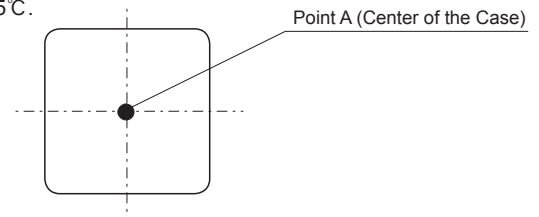

Fig.8.4 Temperature Measuring Point on the case (Top View)
(4) Temperature Measuring Point on the case.
- In case of forced air cooling, please have sufficient ventilation to keep the temperature of point A in Fig.8.4 at 105°C or below. Please also make sure that the ambient temperature does not exceed 85°C.